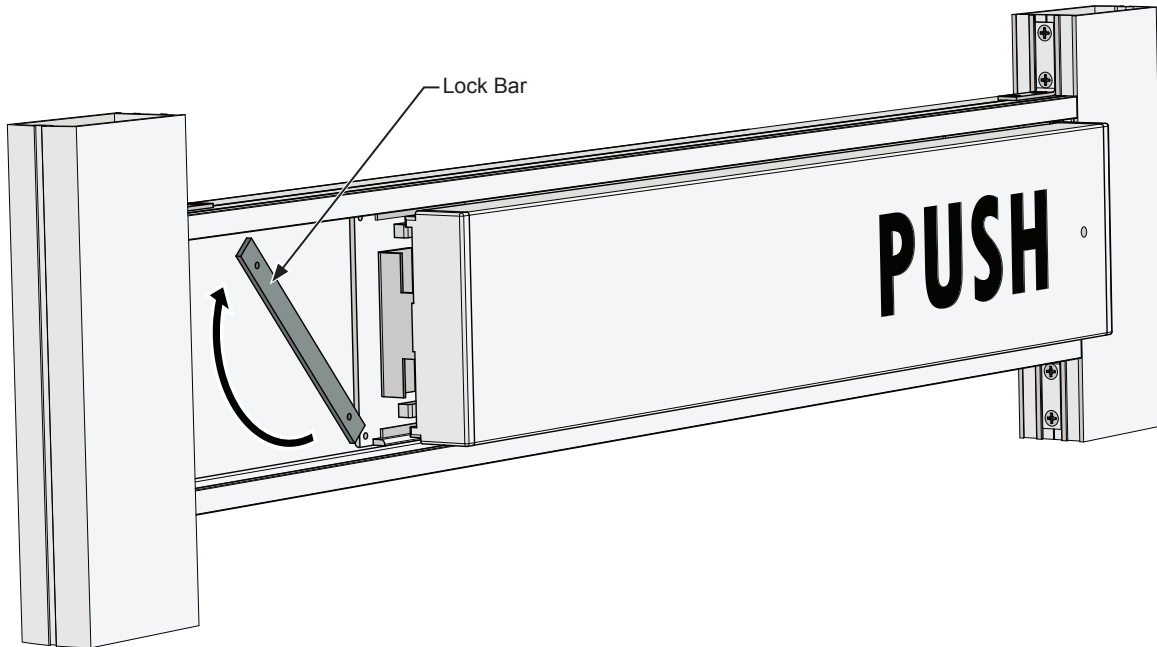

FIG. 19
1. Install the locking bar by sliding it behind the ribbing of the mid-rail until it stops against the inactive tab. **(Fig. 19)**